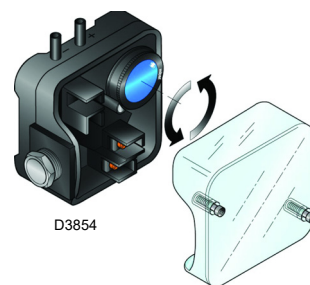

Fig. 24
- Adjust the air pressure switch (Fig. 24) to the start of the scale.